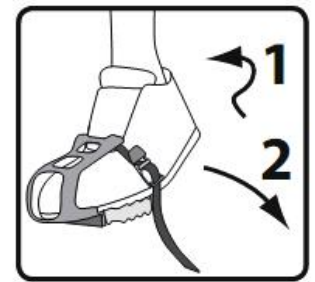

Figure 10
- 2) Loosen both pedal straps before getting off the cycle .First untuck the strap and then press downwards on the small blank plastic piece. see figure 10.